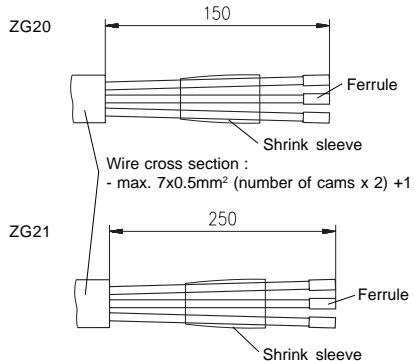

Fig. 1 : Cable preparation
- Prepare wire accord. to fig. 1